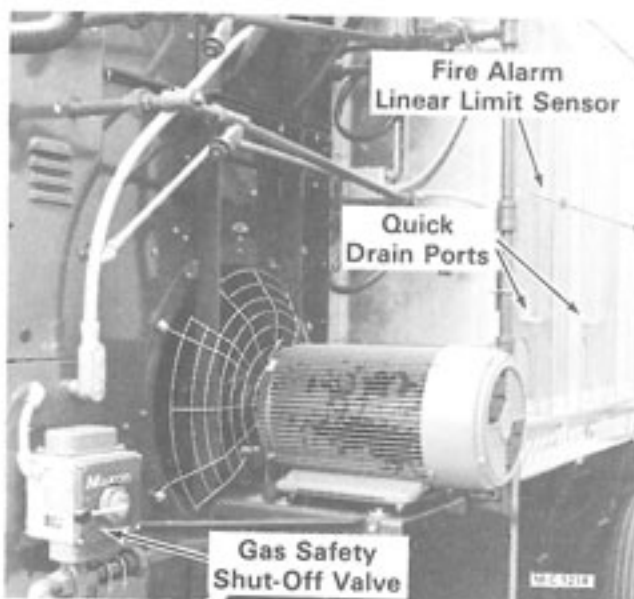

Figure 24 - Optional Safety Control Fire Alarm w/Safety Shut-Off Valve
The linear limit sensors on the outside of the dryer screens monitor the exhaust air temperature, see Figure 24. The temperature operating range of the sensors is pre-set and is not adjustable.
The safety shut-off valve shuts off the main gas supply to the dryer, see Figure 24.
3. Reset the safety shut-off valve manually. The reset lever is on the side of the valve, see Figure 24.